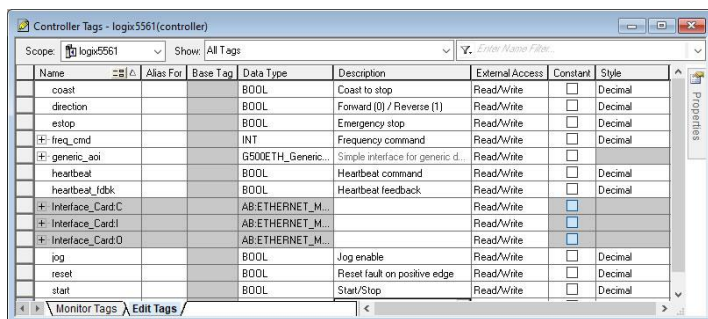

Figure 36: Create Generic Default AOI Tags
- 4) Create the tags in Figure 36.